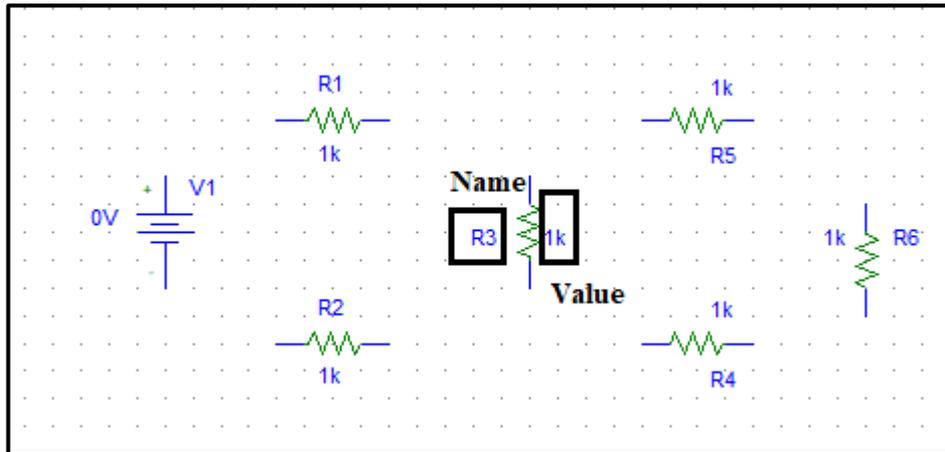

Figure.6
- Note that when you place parts, each circuit part in PSPICE has a name and a value as shown in figure.6.